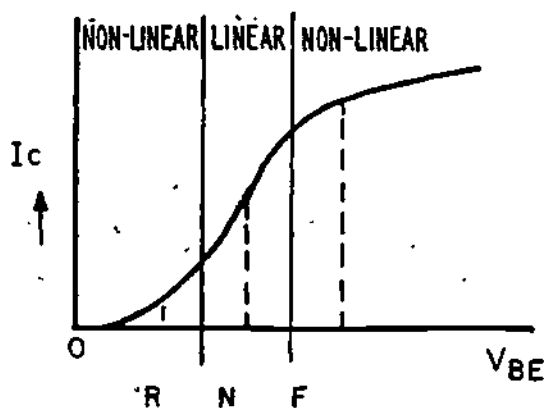

Figure 17
- (19.) The relationship between bias, conduction, and gain are found in the transistor characteristic curve in Figure 17.